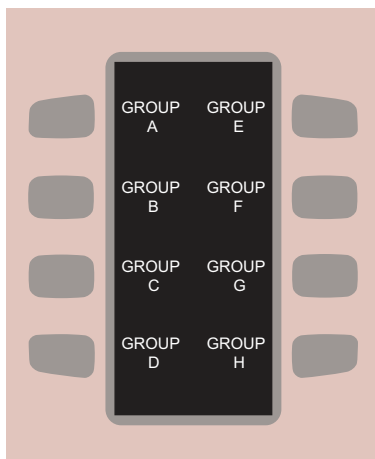
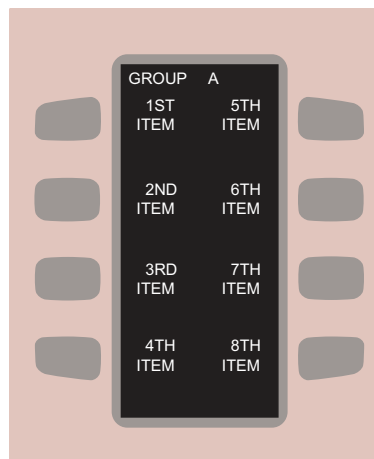

FIGURE 10: Menu Group Select Screen
FIGURE 11: Menu Item Select Screen
The MENU GROUP SELECT screen (Figure 10) displays eight menu groups - each associated with the eight soft keys. Press the soft key corresponding to the desired menu group to advance to the MENU ITEM SELECT Screen (Figure 11).
2. The MENU ITEM SELECT screen is displayed with eight menu items, each associated with the eight soft keys. Press the soft key corresponding to the desired menu item (Figure 11).